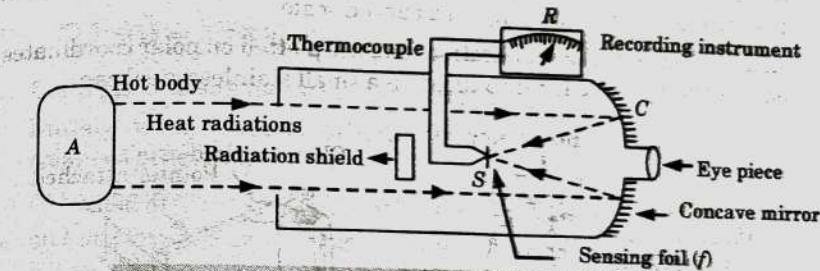

Fig. 4.11.1. A simplified form of radiation pyrometer.
2. Radiations coming from the hot body A are focusing on the sensing elements through a concave mirror C as shown in Fig. 4.11.1.